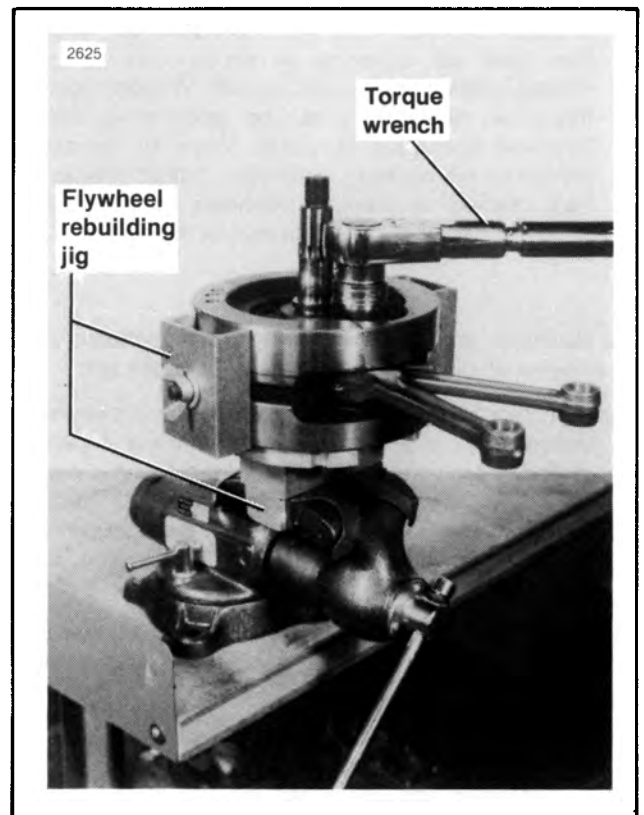

Figure 3-58. Assembling Flywheel
10. See Figure 3-58. Place flywheel assembly in FLYWHEEL ASSEMBLY JIG, Part No. 34813. Tighten crankpin nut to a preliminary torque of 180 ft-lbs.
17. See Figure 3-58. When wheels are true, place flywheel in FLYWHEEL ASSEMBLY JIG, Part No. 34813 and using a torque wrench, tighten crank pin nuts to 210 ft-lbs final torque. Recheck for truing and runout, and if either is not within specification, repeat truing procedure.